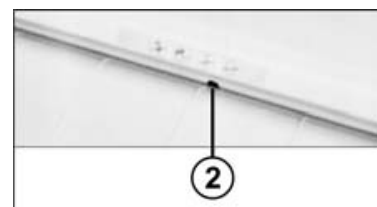

fig. 2
- 2 = Light barrier (forward operation) (fig. 2)